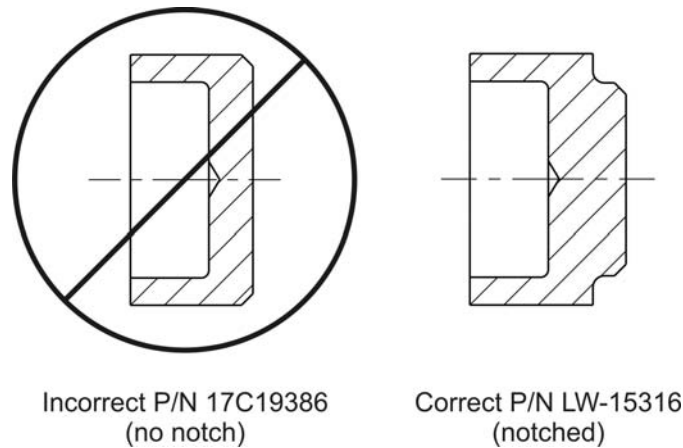
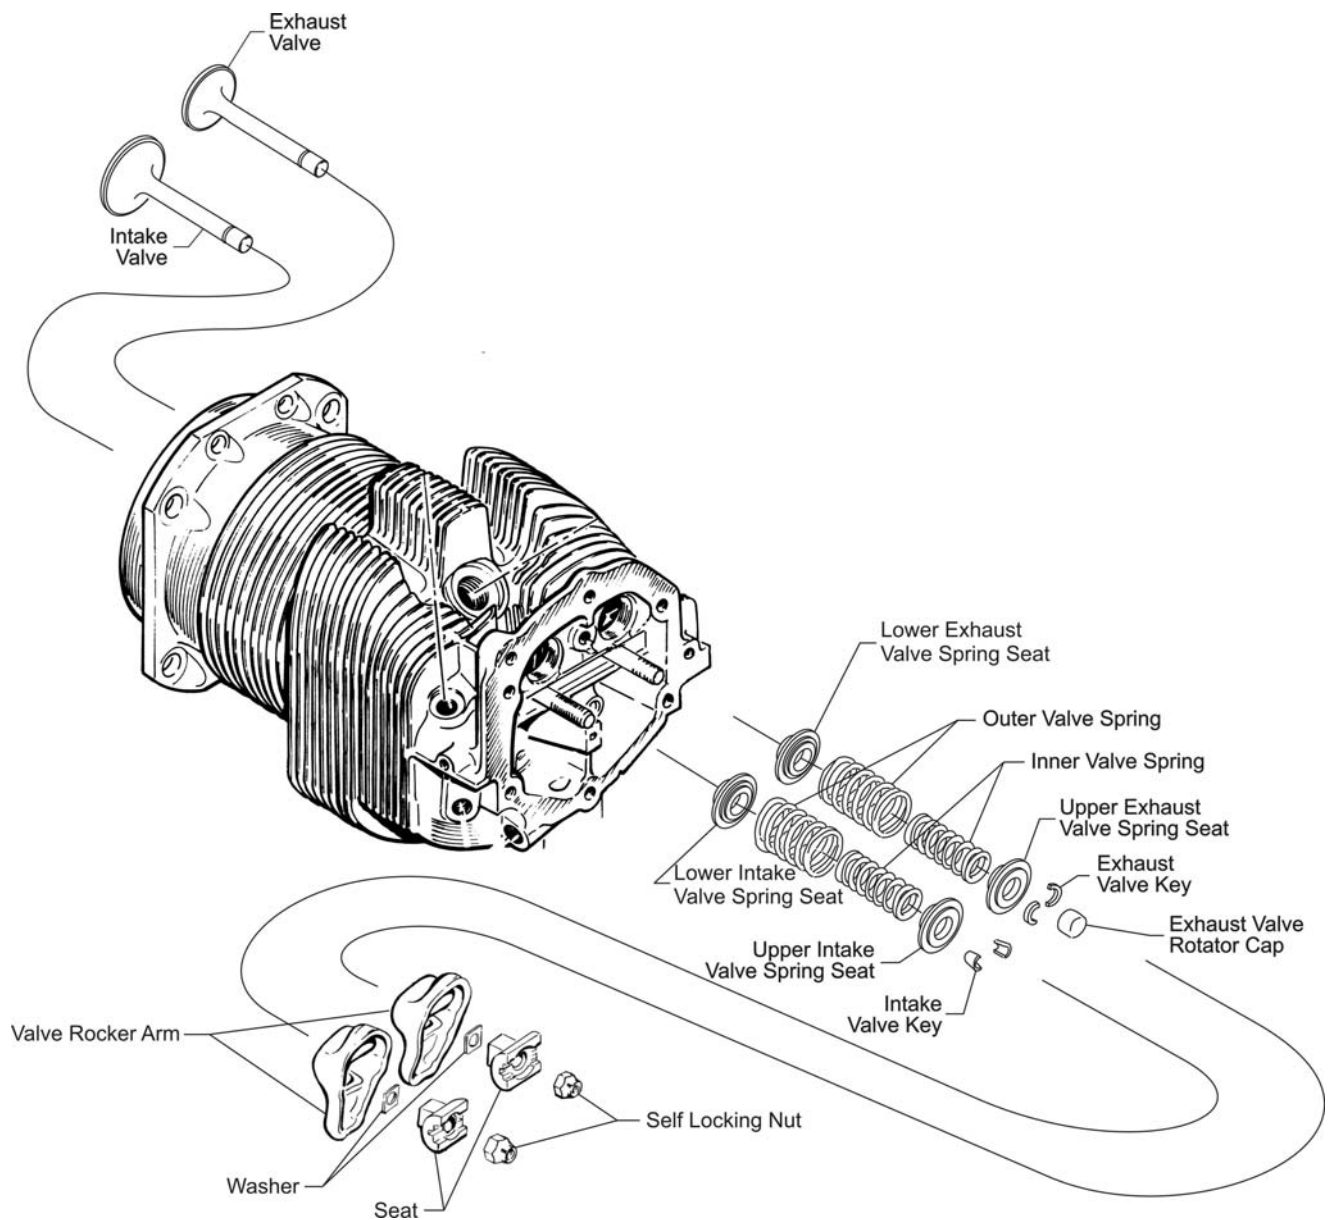

Figure 1. Physical Identification of Incorrect Exhaust Rotator Caps
Figure 2. Illustrative Example of Cylinder Head Assembly
- A.2. Check the exhaust valve rotator cap part number. The correct part number is LW-15316. The part number is located on the side of the exhaust valve rotator cap. However, it may be difficult to see the part number. See Figure 1 for physical identification of the correct rotator cap. See Figure 2 for an illustrative example of the cylinder head assembly.
- B.2. Check the exhaust valve rotator cap part number. The correct part number is LW-15316. The part number is located on the side of the exhaust valve rotator cap. However, it may be difficult to see the part number. See Figure 1 for physical identification of the correct rotator cap. See Figure 2 for an illustrative example of the cylinder head assembly.